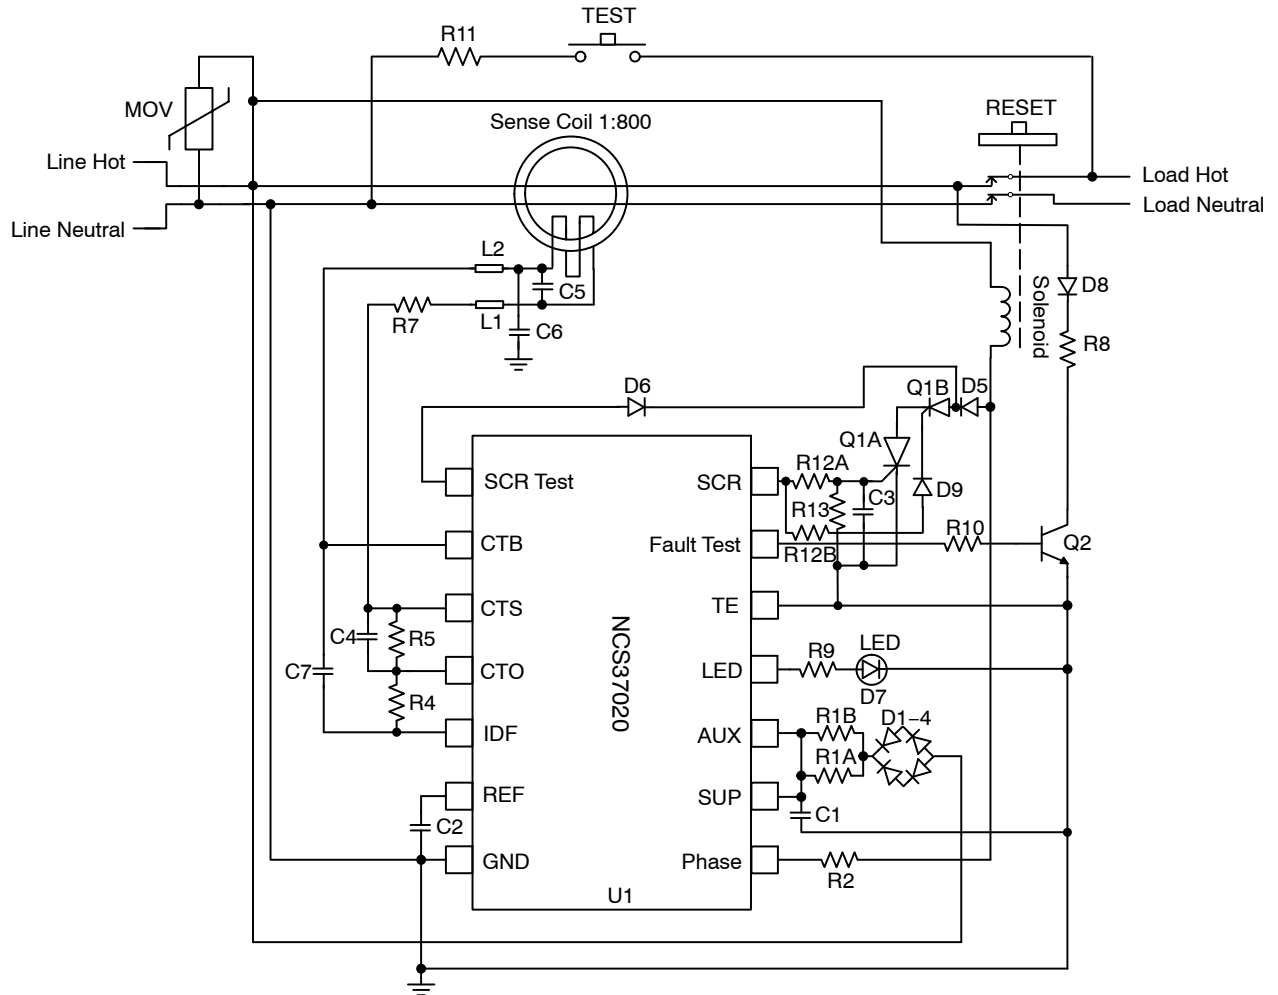
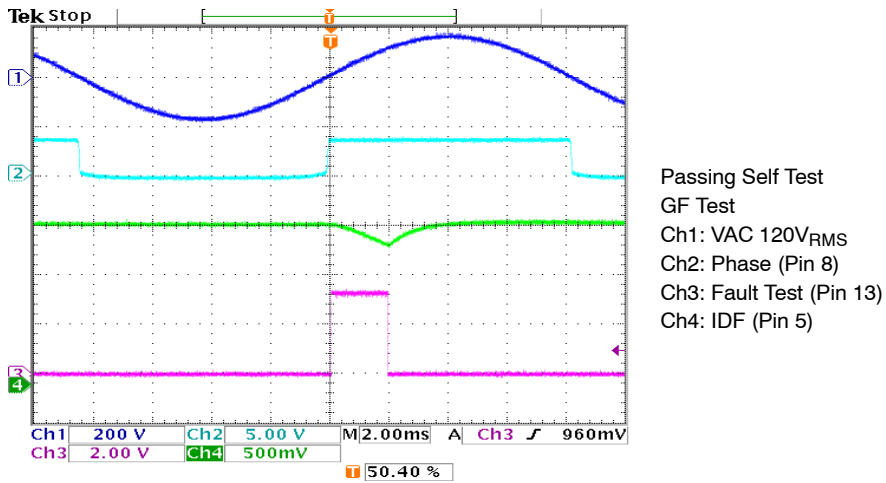
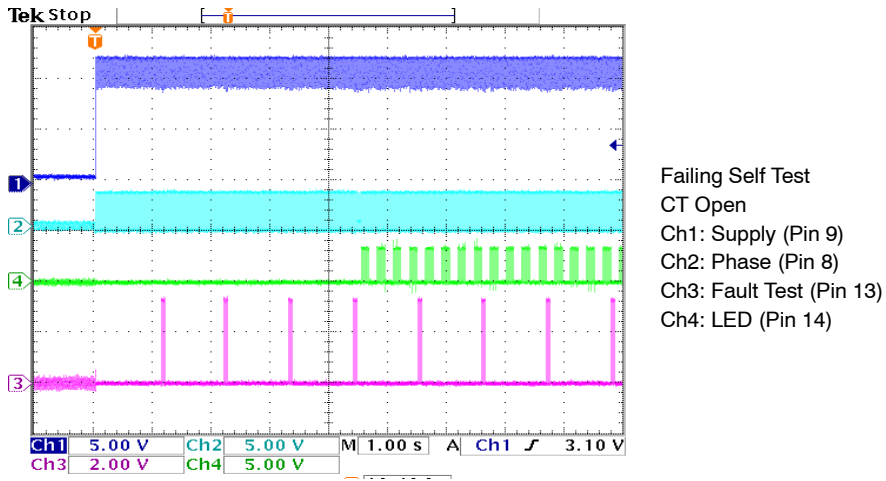
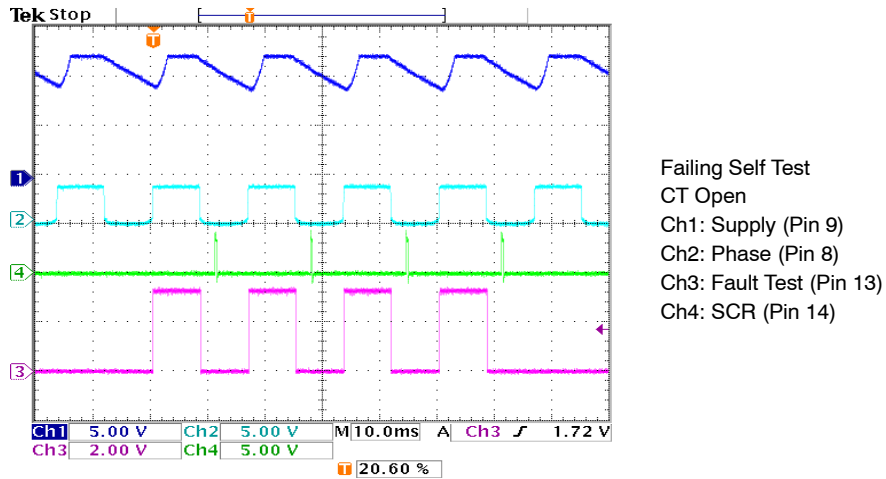

Figure 2. ALCI Application Diagram*
Figure 4. Passing Self Test – GF
Figure 6. Failing Self Test – CT Open
Figure 7. Failing Self Test – CT Open
Table 4. OPERATING RANGES (Unless otherwise noted, ISUP = 3 mA, Phase input = 60 Hz, Refer to Figure 2)
Functional Description (refer to application circuit, Figure 2)
The internal shunt regulator clamps the SUP pin voltage at 12 volts. This provides the bias voltage for the analog and digital internal circuitry via two 3.3 V linear regulators. The NCS37020 controller can be biased full wave or half wave. Figure 2 shows a half wave bias application. Half wave bias allows for lower wattage bias resistors (R1A and R1B) and less redundant bias diodes. The D1–4 diodes are biased so that only during the positive half cycle the capacitor C1 will be charged to 12 volts. During the negative half cycle, C1 will supply the bias current for the NCS37020. To minimize the NCS37020 bias current during the negative half cycle, the SCR and LED outputs will only be enabled during the positive half cycle. The D1–4 diodes and R1A–R1B resistors include redundant components to pass the UL943B standard.
The first self-test (ST) cycle will occur at one second and thereafter every 12 minutes. During the ST cycle, the Fault Test pin will be enabled during the positive half cycle and the CT current (set at 12 mA, R8) will be verified. During the next negative half cycle, the SCR’s anode voltage will be pre-biased by the SCR Test pin to 3.3 volts. The SCR will then be enabled and the SCR’s anode voltage will be monitored by the SCR Test pin. If the anode voltage goes below 2.1 volts, the SCR will be disabled after a 400 μs verification check and the ST logic will register a passing ST cycle. Figure 2 shows two SCRs in series. A redundant SCR is required during the SCR anode to cathode short test to prevent the solenoid from burn out damage. The SCR self-test cycle will fail if either SCR Q1A or Q1B are open. If either Q1A or Q1B are shorted (anode to cathode) the ST cycle will pass, however, the GF function will also function correctly. The next ST cycle will occur in 12 minutes. Note that when the SCR is enabled, the blocking diode D5 will prevent the solenoid from being energized and opening the load contacts. If either the GF (ground fault) or SCR self-test cycles fail, these self-test cycles will be repeated for up to three more consecutive cycles. If any consecutive GF and SCR tests pass, the ST logic will register a passing self-test cycle. If all four ST consecutive cycles fail, a ST cycle will be repeated at 2, 3 and 4 seconds for a total of 16 self-test cycles. If all 16 ST cycles fail, a ST EOL fault will occur. The SCR will be enabled for four consecutive positive half cycles, then the LED will blink at 4 Hz. The LED will only be biased during the positive AC half wave cycle. The SCR will be enabled for one positive half cycle every 4.5 seconds. A self-test cycle will occur every second. If a self-test cycle passes, the ST EOL logic will be reset (power on reset state). If a ground fault is detected during a ST EOL state, the EOL logic will be reset. This allows for resetting the ST EOL state by pressing the manual test button when the load contacts are closed.
Figure 4 shows a passing self-test ground fault test. This test checks for the CT and bias circuitry. Channel 1 shows the VAC 120 V_{RMS} , 60 Hz Line Voltage. Channel 2 shows the positive and negative phase half wave cycles. Channel 3 shows the Fault Test signal and channel 4 shows the IDF signal (CTO output). The self-test cycle starts in the positive half wave cycle. The Fault Test pin goes high and Q2 (Figure 2) is enabled. Enabling Q2 generates a GF signal via R8. The IDF signal is the CTO amplifier output which is a GF current to voltage signal per the equation on the previous page. When a 5 to 15 mA GF signal is detected, a “passing GF test” is recorded and the Fault Test signal is disabled.
After a passing self-test cycle per Figures 4 and 5, the next ST cycle will occur in 720 seconds.
Figure 6 shows a failing ST cycle for an open CT. Channel 1 shows the NCS37020 supply voltage. Channel 2 shows the phase pin. Channel 3 shows the Fault Test signal and channel 4 shows the LED (End of Life) signal. The first four consecutive ST cycles occur at about 1.1 seconds, then at 2.2, 3.3 and 4.4 seconds. After the 16th consecutive cycle failure, the SCR is enabled for four positive half cycles and then the LED is enabled.
Figure 7 also shows a failing ST cycle for an open CT. It is a zoom figure for the first four consecutive ST cycles. It shows the same waveforms as Figure 6 but channel 4 shows the SCR pin. Comparing Figure 7 with Figure 4, it can be observed that the Fault Test pin is enabled for the complete positive half wave cycle because no GF signal is detected by the NCS37020.